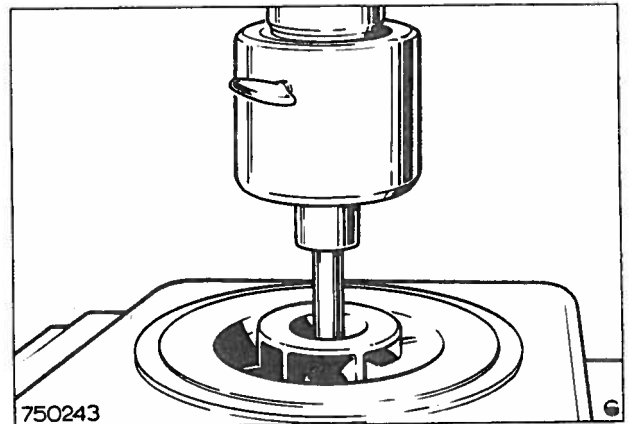

Fig. 18 Pressing the impeller off the shaft
2. Press the impeller off the shaft, Fig. 18.